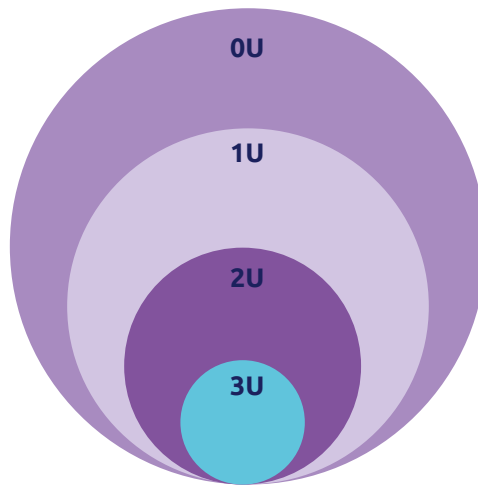

Figure 4 - Big picture on relative device footprint vs. class
**Why does a device's radiated power matter?** Because the quality of the link between an object and the network is never a network-only concern! In fact, in identical network conditions, devices radiating different power do not experience the same service. Note in Table 3 that class boundaries are separated by 5dB. This corresponds roughly to a device «reach» reduction of 25% between one class and the next, as illustrated in Figure 4. Your device class assessment is done in anechoic chamber conditions: these canonical conditions are different from your device operating conditions. From this perspective, the assessment provides a sanity baseline more than a guarantee of field performance.